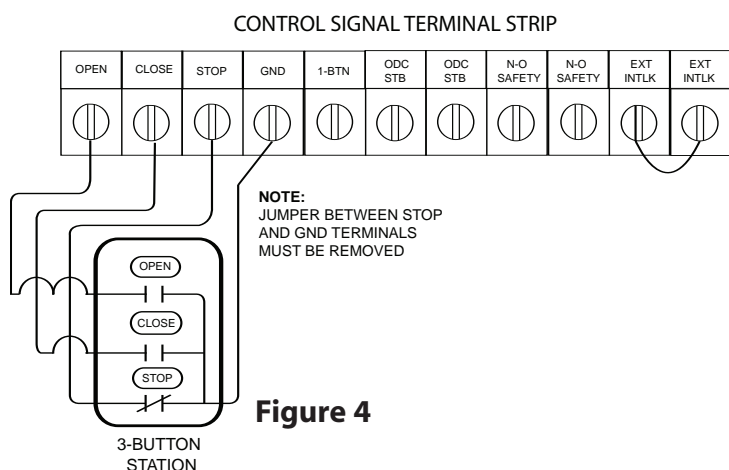

Figure 4
- 1) For a single 3 - button installation, make connections as shown in **Fig. 4**.